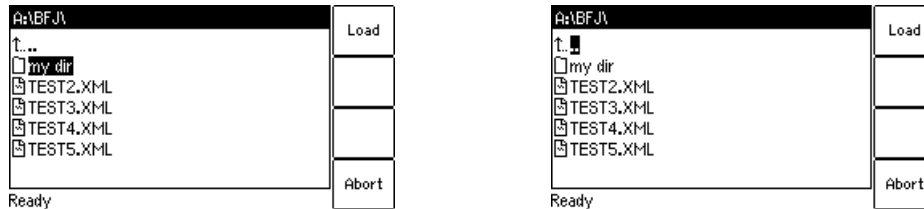

Figure 6-15: File system card for loading a report
After selecting one of the available file operation functions in the **File Menu**, the file system card is displayed showing the current path in its title bar and the file system elements in the card area (refer to Figure 6-15).
- ▶ To open a folder, select its entry (see Figure 6-15, left) using the **▲ ▼** cursor keys and then press the **↵** key.